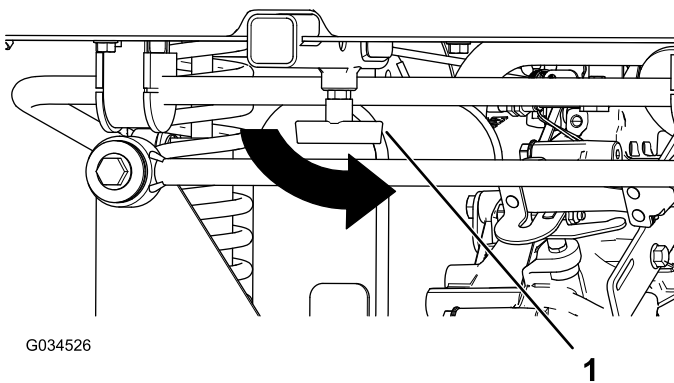

Figure 9
8. Tighten the “T” handle on the receiver tube (Figure 9).